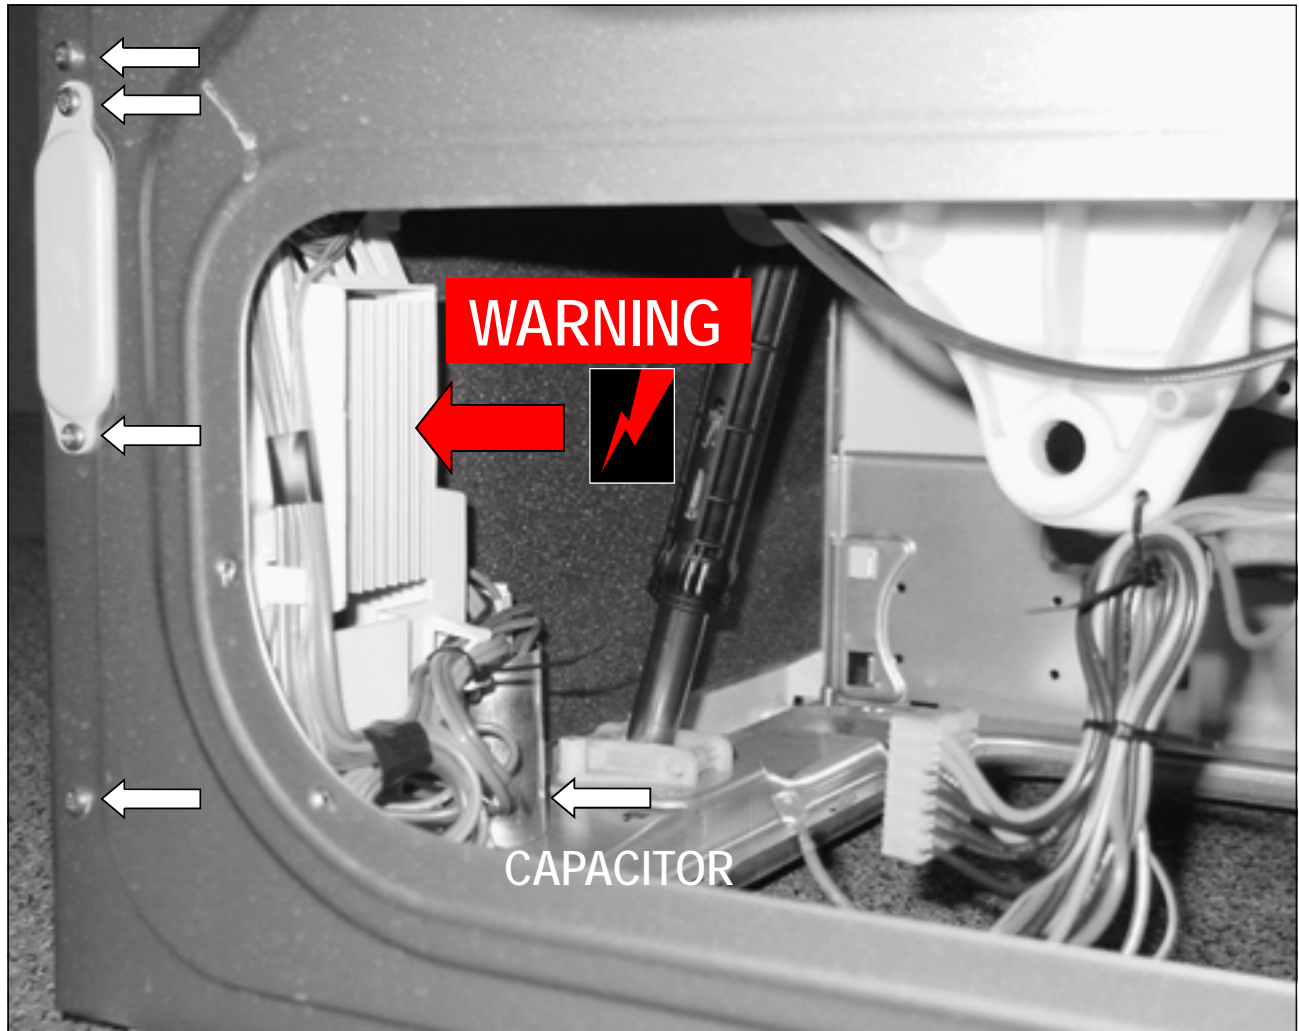

Fig. 10-1
- Next remove the four Phillips board mounting screws and the connector cover (Fig. 10-1).
- Tip the appliance forward and then remove the Capacitor by loosening the 13mm Capacitor Mounting Nut from the bottom of the unit (Fig. 10-1).